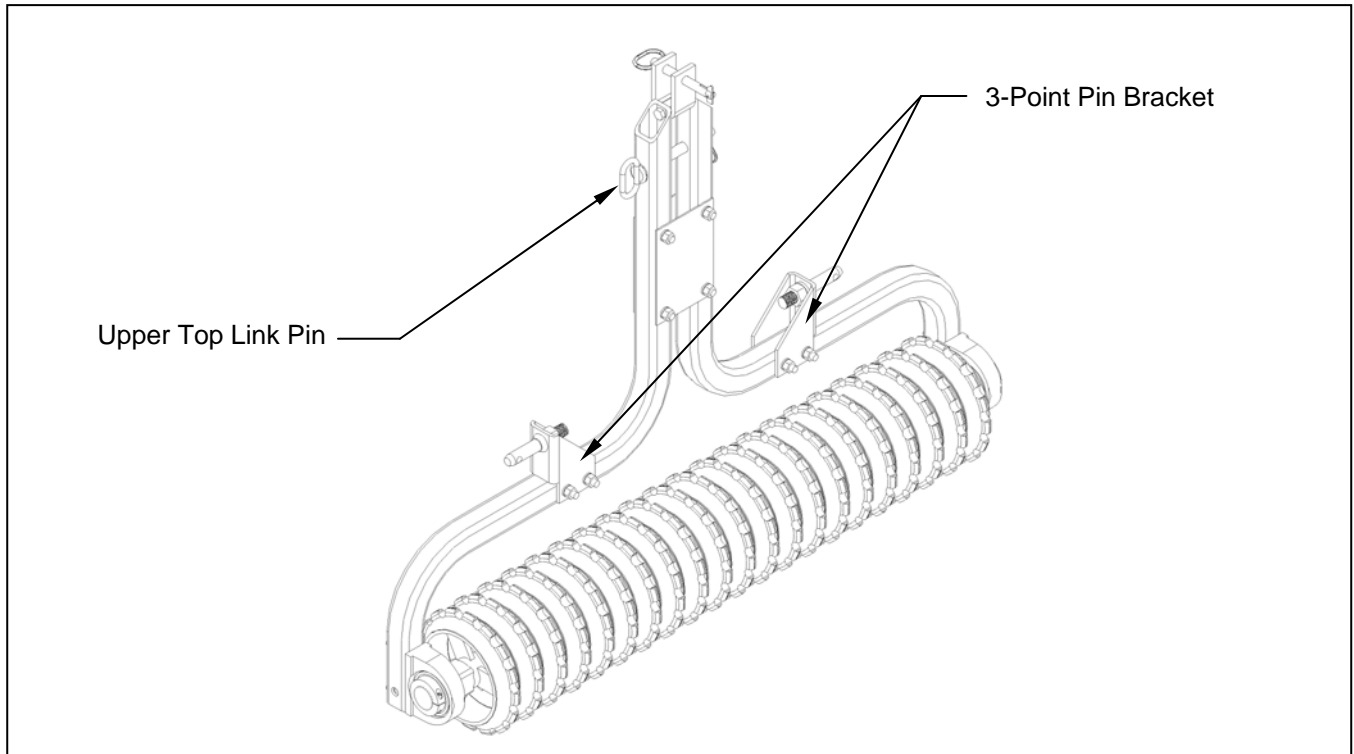

Figure 2. – Assembly of 3-Point Kit
**B. ASSEMBLY OF OPTIONAL 3-POINT KIT (See Figure 2)**
2. Install each lower 3-point pin bracket on the cultipacker frame as shown in Figure 2. Fasten securely with the 1/2" nuts, lock washers and bolts that were removed in Step 1.